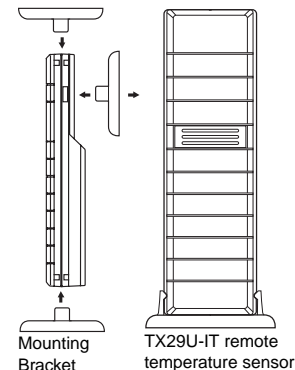

Figure 2
2. TX29U-IT-remote temperature sensor (figure 2)